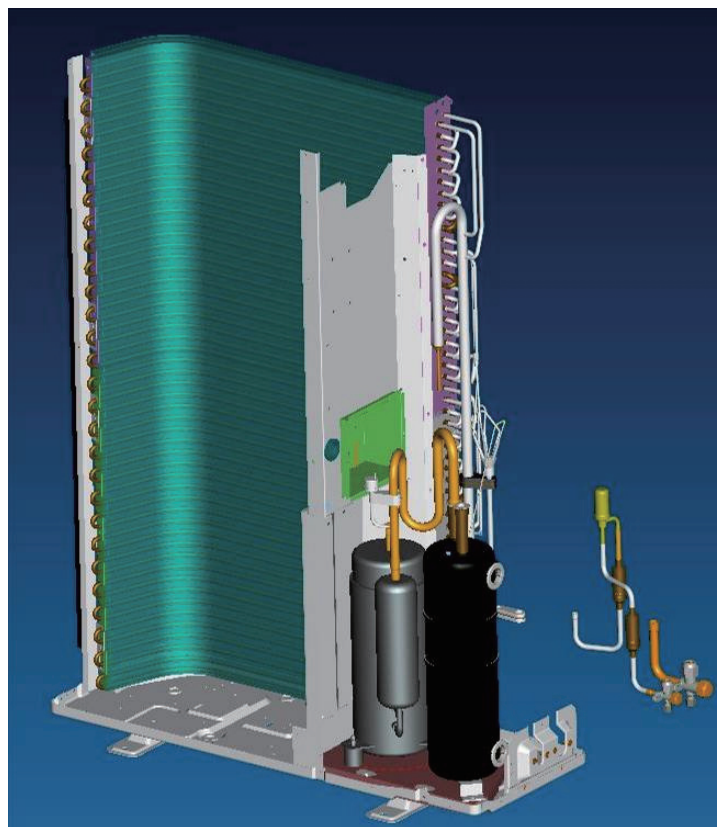

Fig.12
①. Remove gas valve
- Welding out the pipe connected to the gas valve [See Fig.12]
②. Remove liquid valve
- Welding out the pipe connected to the liquid valve [See Fig.12]